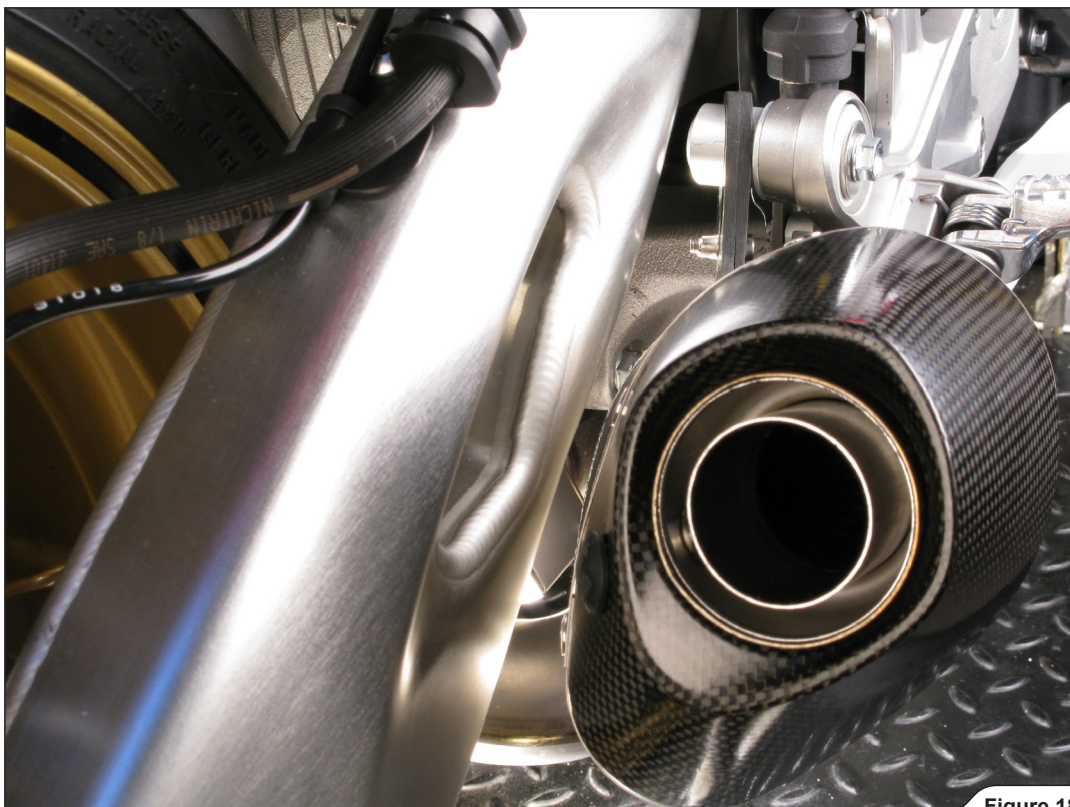

Figure 18
9. Align the muffler in respect to the swing arm (to gain as much ground clearance as possible) and tighten the marked bolts and clamp to the specified torques (**Figure 18, 19, 20**).